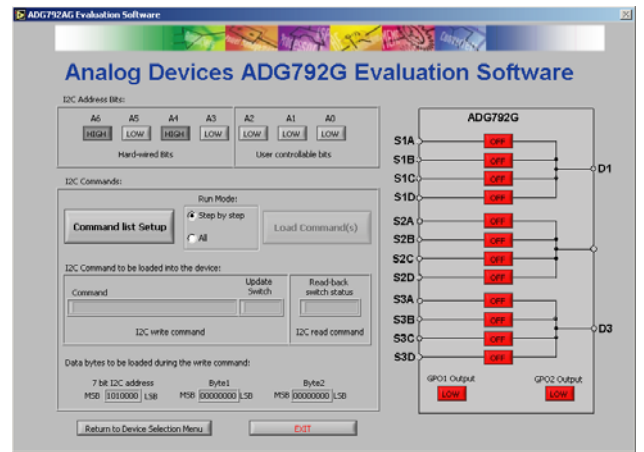
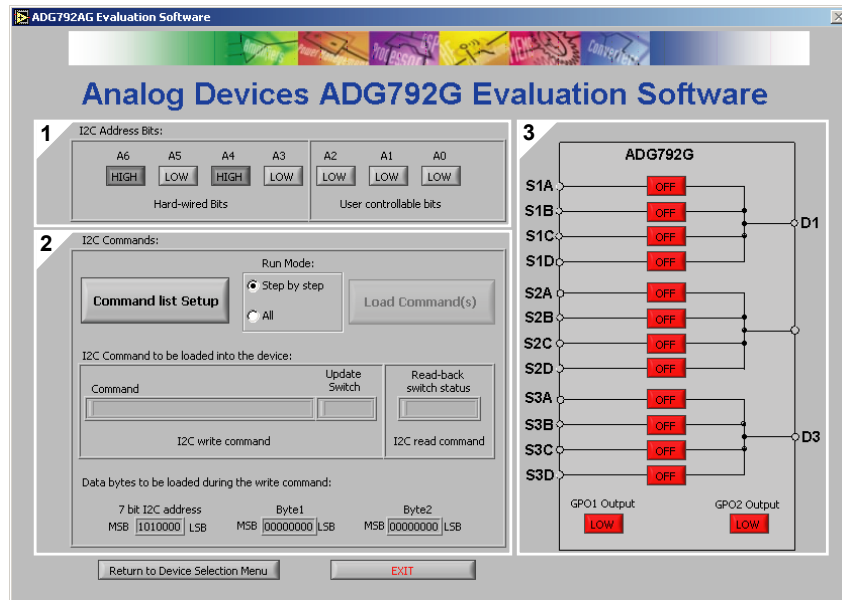
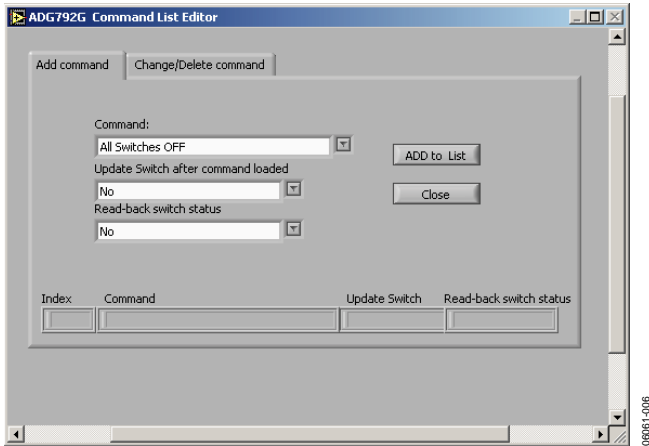

Figure 4. Main Window for ADG792G Evaluation Software
Figure 5. Main Window Setup
Figure 6. Setup Command List Window
5. After the desired device is selected, a new window opens as shown in Figure 4.
6. Figure 4 represents the main window for ADG792G but it is similar to the main windows for all ADG79XX devices. Each main window has the control elements highlighted in Figure 5.
This section (Section 1 in Figure 5) lets you set the I²C address to be sent to the evaluation board. These user-controllable bits must be set to match the configuration of J3, J7, and J8 from the evaluation board.
This section (Section 2 in Figure 5) lets you establish a list of commands to be sent to the board. The commands can be sent in step-by-step mode or all at once. After loading a command, the software gives you the option of updating the switch and/or reading back the switch status. The evaluation software is designed to update the switch configuration only if the **Update Switch** option is set to **Yes**. This option sets the LDSW bit accordingly (see data sheets) and allows you to execute a set of commands in a single step. See the Command List Setup section for more information.
This section (Section 3 in Figure 5) shows the current status of the switches and GPO pins (if available). If the **Read-back switch status** (see Section 2 in Figure 5) option is set to **Yes**, the software reads the status of the switch and updates the diagram.
1. Click the **Command List Setup** button from the **I2C Commands** section (Section 2 in Figure 5). The window in Figure 6 is displayed.
4. When the list is complete, close this window to return to the main window (Figure 5).
6. To edit/delete an item from the list at the bottom of the window, select it and click the **Index** button until the desired item is displayed. If the **Change to** option button is selected, three drop-down lists allow you to change the selected item. Any edit/delete command is completed by clicking the **OK** button. The updated item then appears in the list at the bottom of the window. When the editing is complete, click **Close** to return to the main window (Figure 5).